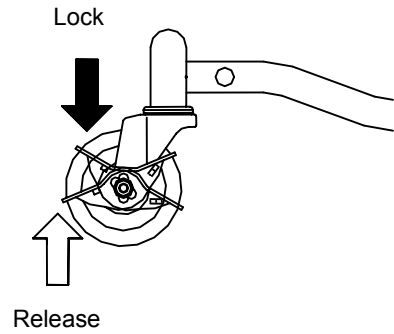

Fig.6-2
- 5) Move the machine to the place appropriate for your purpose, and lock the brake to fix the machine. (See Fig.6-2.)